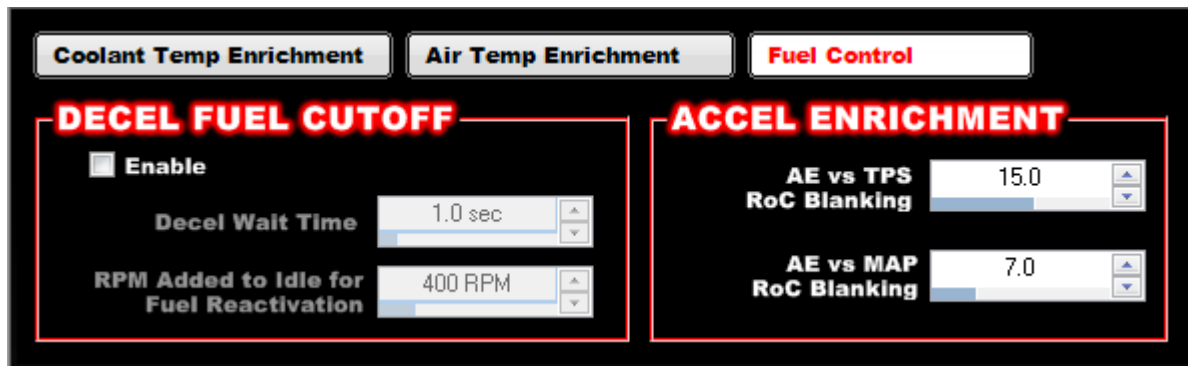

Figure 8
AE vs. TPS Rate of Change and AE vs. MAP Rate of Change - Acceleration Enrichment (AE) fuel is added when there is a change/movement in the TPS or MAP sensors. There has to be some minimum threshold of movement/Rate of Change (ROC) below which fuel is not added due to signal “noise”. For a TPS, this might be vibration, or “very slow” movement of the throttle during which you would not want added fuel. For a MAP sensor, this might be MAP signal movement due to idle fluctuations. In previous Holley EFI software/firmware versions, this “blanking” level was fixed in the background. In V2 versions, the user is allowed to edit this parameter. These parameters are found in the Fuel ICF under “Fuel Modifiers” > “Fuel Control”. See **Figure 8**. These values may need to be edited for AE vs. TPS, due to the use of very large throttle bodies, which may need more AE vs. TPS sensitivity. On the other hand, engines with large cams and idle vacuum fluctuations may need a larger MAP vs. AE value, due to MAP sensor fluctuations. The baseline values, that were hard-coded into previous software and hardware versions, were the following: